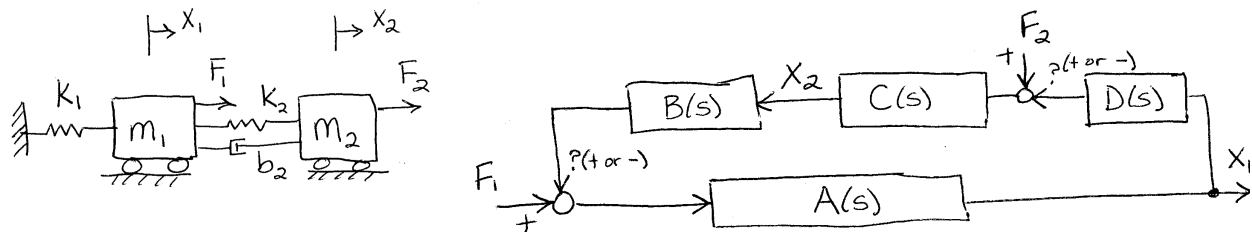

Figure 2. Schematic (left) and Block Diagram (right) for Problem 2.
- Using the MATLAB code template from Lecture 13, derive the equations of motion for the system shown in the schematic in Figure 2, below. You will need to download the function “fulldiff.m” from the homework website to complete this.
- Using your equations from part a, solve for the four transfer functions, A(s) through D(s), shown at right in Figure 2. (Notice each block contains either a mechanical impedance or an inverse impedance.) Also determine the signs (+ or -) at each summing junction.